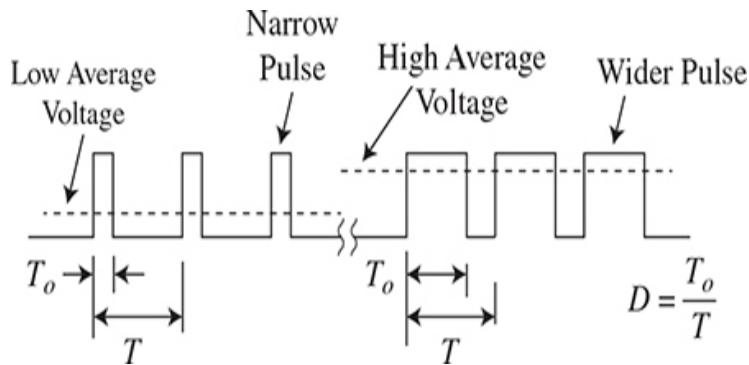

Figure 10.10 Pulse width modulation (PWM) uses variable duty cycle voltage to vary the speed of a permanent magnet brushed motor.
by the average voltage the motor sees. The width of the pulses determines the speed. Refer to Fig.10.10.
PWM is a pulse wave train with a constant frequency. For servos, this signal is usually in the 50- to 60-Hz range. The modulation of this pulse train is variation of the signal duty cycle. The duty cycle is the ratio of the pulse on time to the signal period (T). See Fig. 10.10. The period is fixed because the frequency is constant.